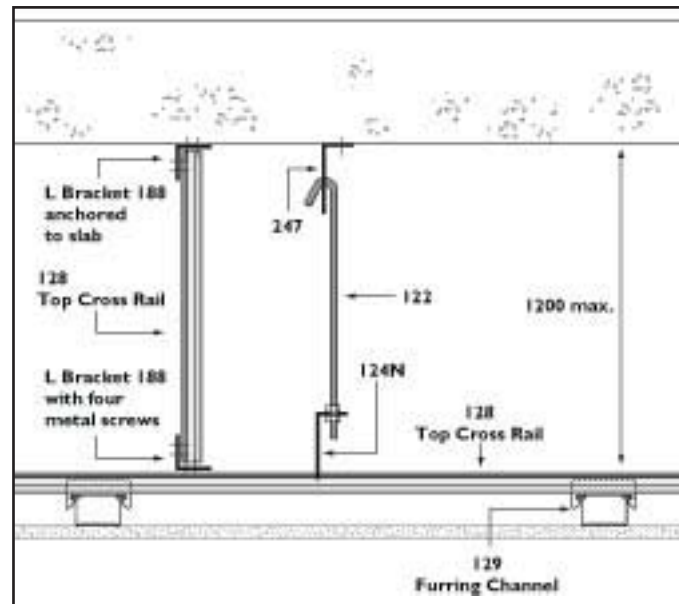

FIGURE 11: Downstrut Detail
When installing the Rondo KEY-LOCK® suspended ceiling system in external applications, consideration should be given to wind pressure which may occur. For Downstrut details, refer to Figure 11.
1. The above table gives the limit state load capacity for various ceiling configurations. The direction of loading may be upward or downward, provided the ceiling is installed with downstrutting as per Figure 11.